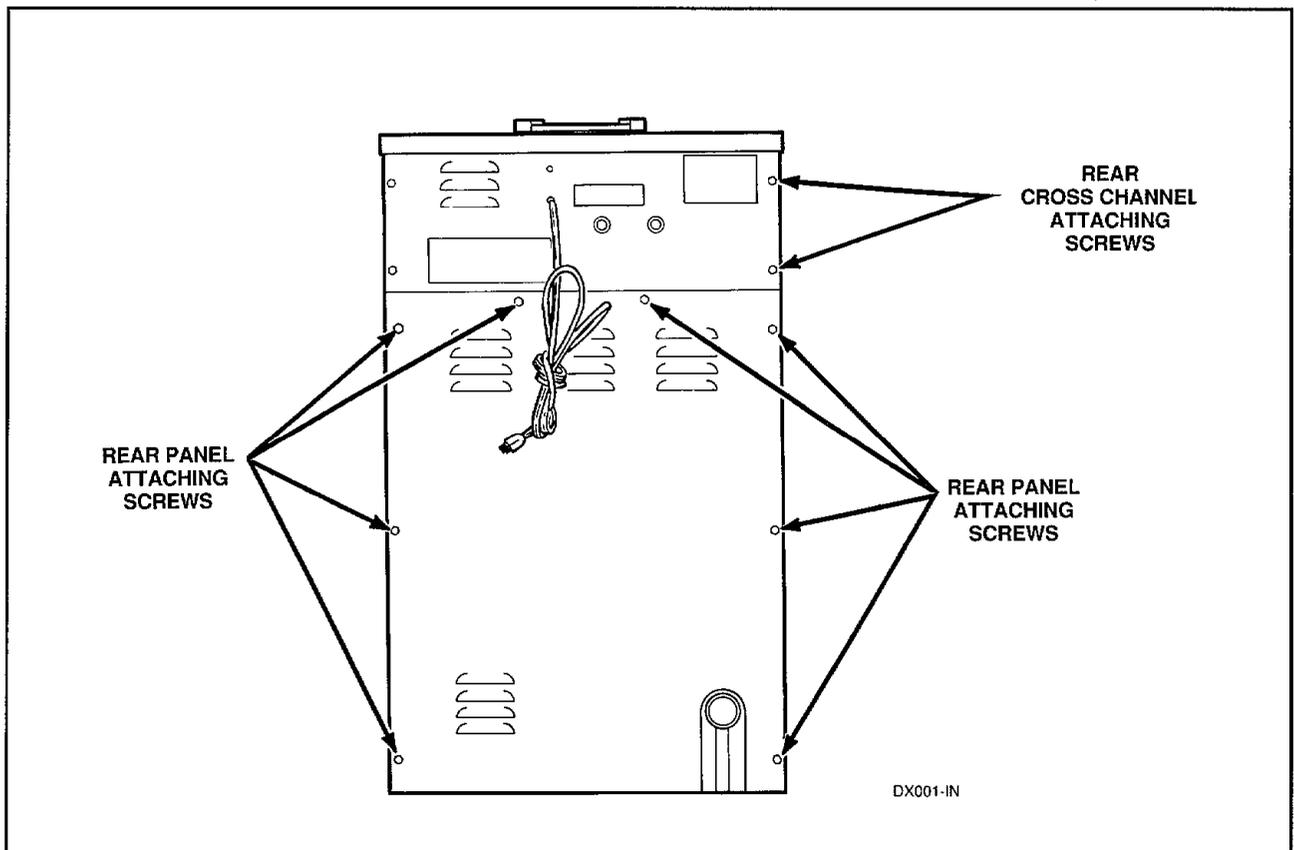

Figure 10
Remove screws holding the rear panel to the washer side panels, *Figure 10*.
- a. Remove screws holding rear panel to washer, side panels, *Figure 10*.
- i. Remove screws holding rear panel to washer side panels and remove panel, *Figure 10*.